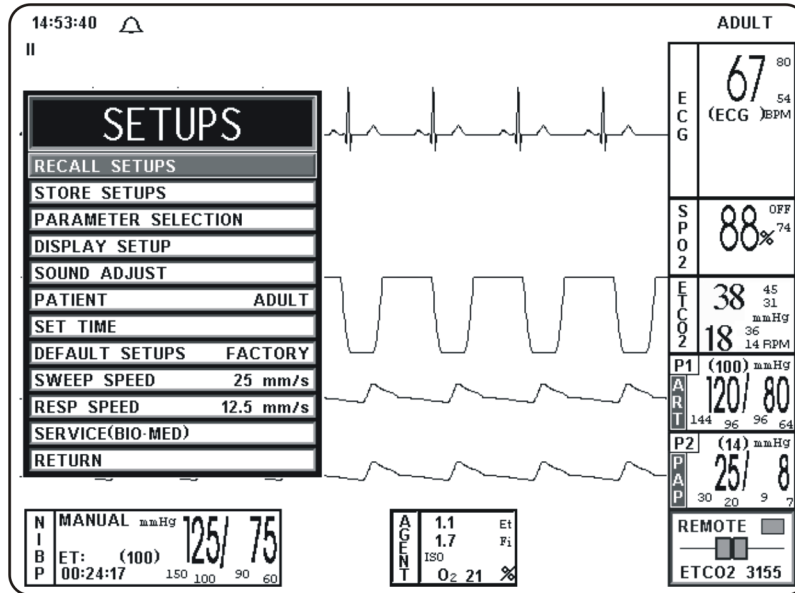

Figure 3-1. The SETUPS Menu
3.2 SETUPS Menu. (See Figure 3-1) Pressing the **SETUP** Menu-Select key brings up the **SETUPS** Menu. From this menu, the operator has the ability to fine tune the operation of the **3155A/3155MVS Monitor** to suit individual situations. While in the **SETUPS** Menu, individual setup configurations may be saved and recalled, the available parameters may be turned off and on, the display may be setup, the monitor sounds may be adjusted, the patient mode may be switched between adult and neonate, the date and time may be adjusted, the monitor may be set to default to the Factory or any User configuration. In addition to control over these features, this menu allows the sweep speed and respiration speed to be selected, and provides Qualified Service Personnel with Service and Calibration Information. *This menu has a time-out feature. If no action is taken for approximately 60 seconds, the monitor will automatically return to the Normal Screen.*